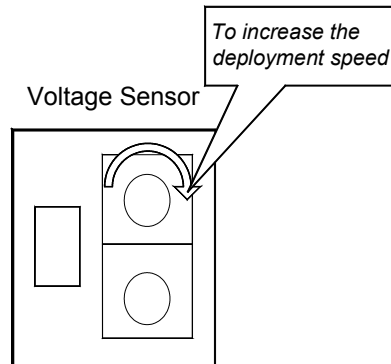

FIGURE 3-4: INCREASING DEPLOYMENT SPEED
- b. Refer to **Figure 3-4**. When the deployment speed is too slow (ramp movement is not smooth) adjust deployment speed: